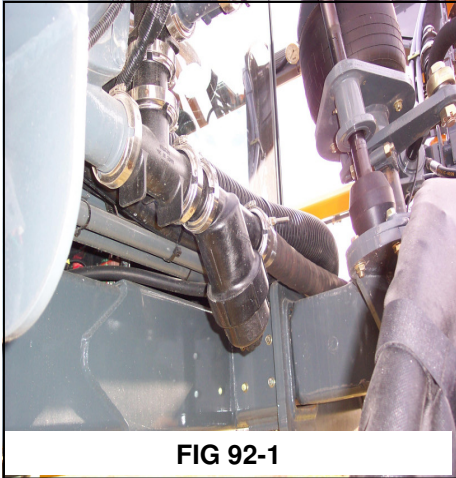

FIG 92-1
**SOLUTION LINE “Y” STRAINER**– To help maintain consistent application rates, check the solution line strainer (fig. 92-1) daily for blockage. Clean the strainer screen as required. Be sure to wear appropriate clothing while removing and cleaning the line strainer screen. Confirm the gasket is in place before re-installing the screen.